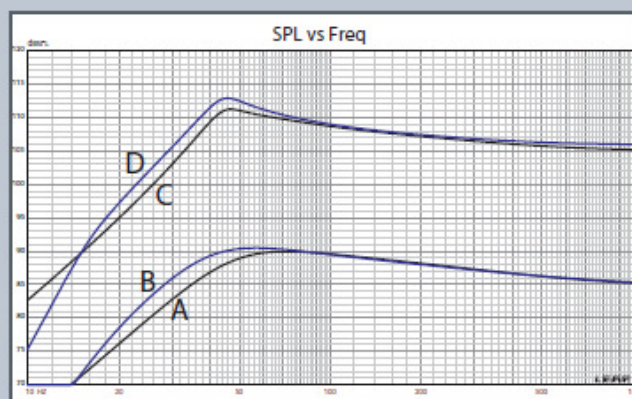
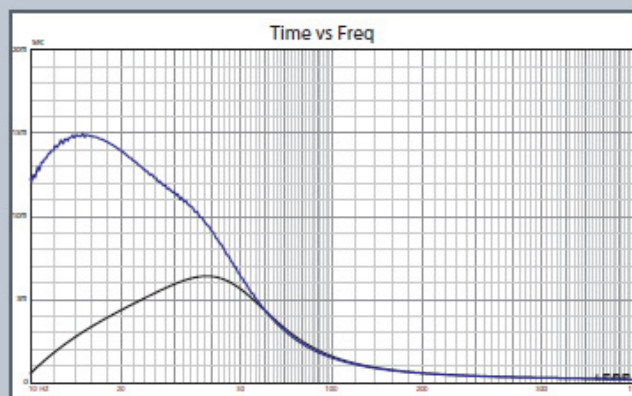

FIGURE 10: Scan-Speak 26W/4558T00 computer box simulations (A = sealed at 2.83V; B = vented at 2.83V; C = sealed at 36V; D = vented at 40V).
FIGURE 11: Group delay curves for the 2.83V curves in Fig. 10.
**Figure 10** illustrates the results for the Scan-Speak 26W subwoofer in the sealed and vented boxes at 2.83V and at a voltage level high enough to increase cone excursion to  $X_{max} + 15\%$  (14.4mm for the 26W). This yielded a  $F_3 = 40\text{Hz}$  with a box/driver  $Q_{tc}$  of 0.67 for the 1.0ft3 sealed enclosure and  $-3\text{dB} = 33.5\text{Hz}$  for the 1.7ft3 vented simulation. Increasing the voltage input to the simulations until the maximum linear cone excursion was reached resulted in 111.2dB at 40V for the sealed enclosure simulation and 106dB with an 16V input level for the larger vented box (see **Figs. 11 and 12** for the 2.83V group delay curves and the 36/40V excursion curves).